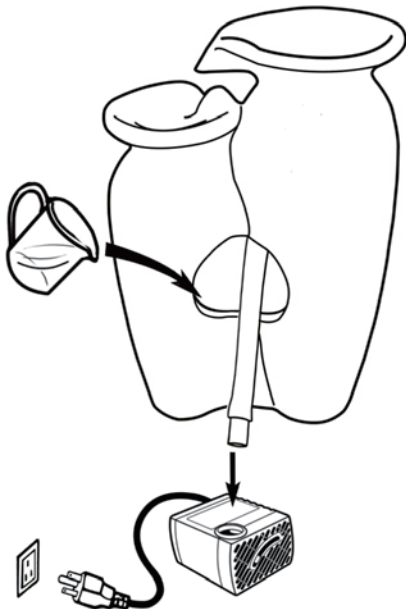

Fig.1
3. Place the main body on a flat, level surface. From the opening at the back of the fountain, insert the water supply tube into the pump outlet on the top of the pump. After that, please place the pump upright into the basin, then add clean water into the basin and connect the pump plug to a GFCI outlet and the product will begin to function as intended. (Fig. 1)